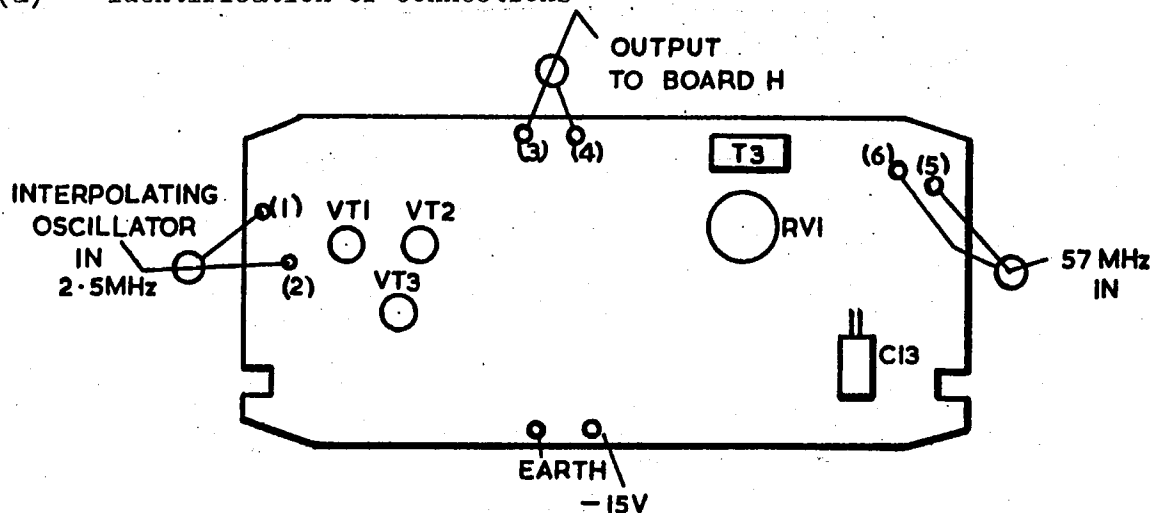

Fig. 16.1 BOARD G, VIEWED FROM COMPONENT SIDE
Connect the 2.5 MHz signal source (16.1 (3)) to pin (1) on Board G (Fig.16.1). Use the oscilloscope to check that the signals at the bases of VT2 and VT3 are 90° out of phase.
(i) Connect the 57 MHz signal source (16.1 (4)) to pin (5) on Board G (Fig.16.1), keeping the 2.5 MHz signal source connected as before. Connect the panoramic receiver to the output, pin (3) on Board G (Fig.16.1). Tune the receiver to 57 MHz. Signals should be received at 54.5 MHz, 57 MHz and 59.5 MHz. The amplitudes of the 54.5 MHz and 57 MHz signals should be at least 10dB below the level of the 59.5 MHz signal. Alter the level of the 54.5 MHz signal by adjusting RV1 and C13. Set RV1 and C13 to give minimum output at 54.5 MHz. If adjustment of RV1 alters the level of the 59.5 MHz signal instead of the 54.5 MHz signal the output connections of TR3 should be reversed. Measure the level of the 59.5 MHz signal; it should be not less than 5mV r.m.s.